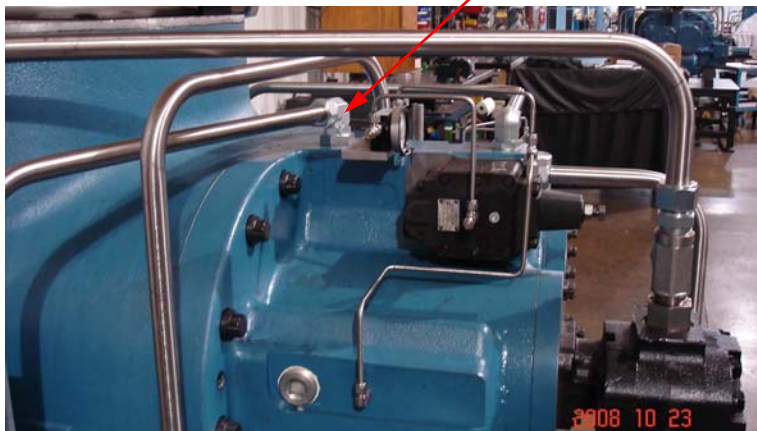

FIGURE 6: DUPLEX OIL SYSTEM - OIL TUBE CONNECTION AT DISCHARGE
- 3.20 Loosen, but do not remove the oil tube at the filter housing outlet. Disconnect the other end of the tube at the top of the discharge housing. Connect the pump to the fitting at the top of the discharge housing and pump 5 quarts (5 L) of VpCI corrosion-inhibitor/oil mixture into the compressor (see Figure 6).